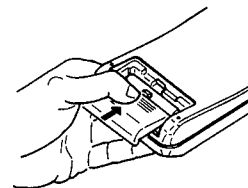

Fig. 11
3. Reinstall the rear cover of the remote control unit. Slide the rear cover back as shown in Fig. 11.